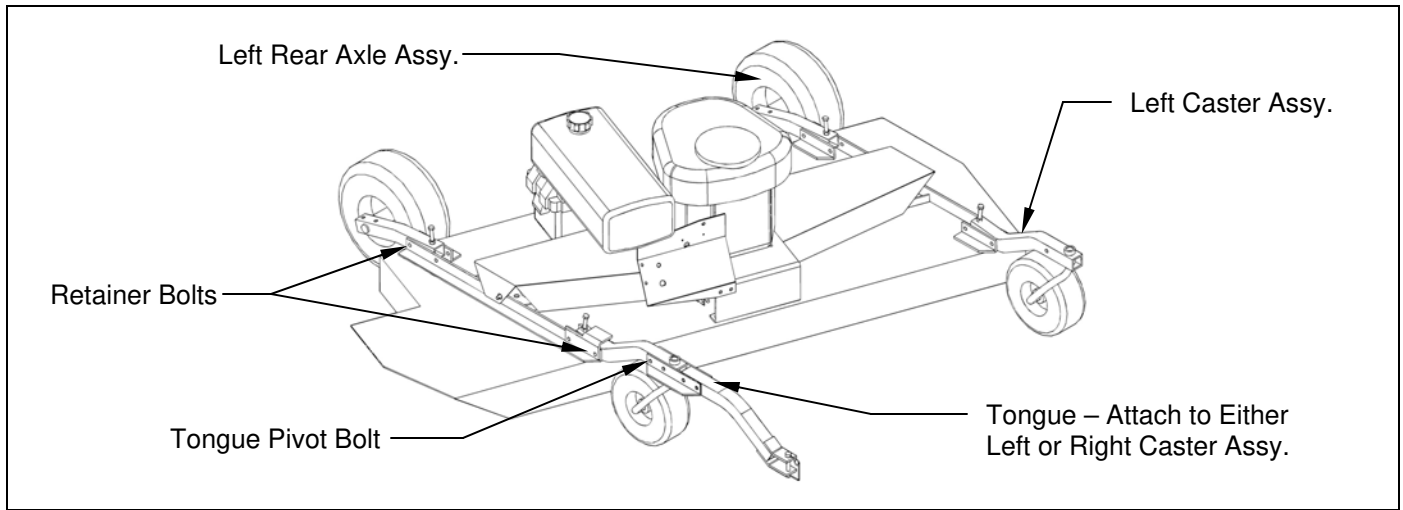
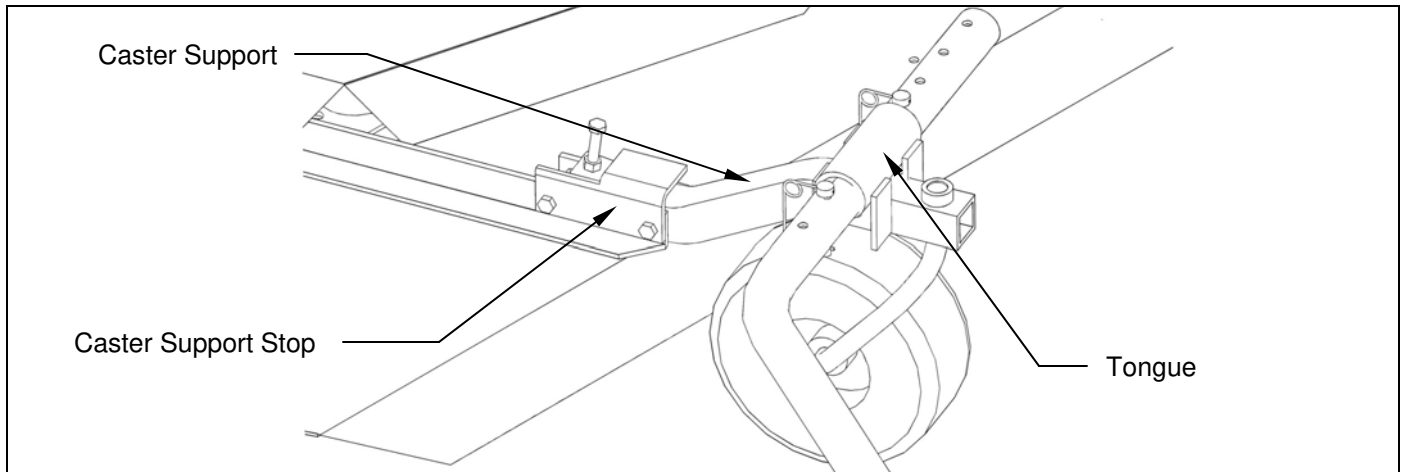

Figure 1. Assembly of Wheels, Tongue and Rear Hitch
Figure 2: Installation of Caster Support Stop
2. Install the two caster assemblies in the retainers on the front of the mower deck. **See figure 1.** Before securing the caster supports, determine which side of the mower the tongue will be placed on and install the caster support stop on the tongue side. **See Figure 2.** Secure with 3/8" x 2-3/4" hex head bolt, lock washer, and nut provided in the retainer areas.
3. Install the two rear axle assemblies in the retainers on the rear of the mower deck. The tire should be to the left of the axle support. **See figure 1.** Secure with 3/8" x 2-1/2" hex head bolt, lock washer, and nut provided in the retainer areas.
1. The tongue can be installed either on the left or right caster assembly depending on how the wing mower will be towed. **See figure 1.** Tighten the lock nut on the 3/8" x 2-1/2" pivot bolt so the tongue is free to pivot but does not move sideways.